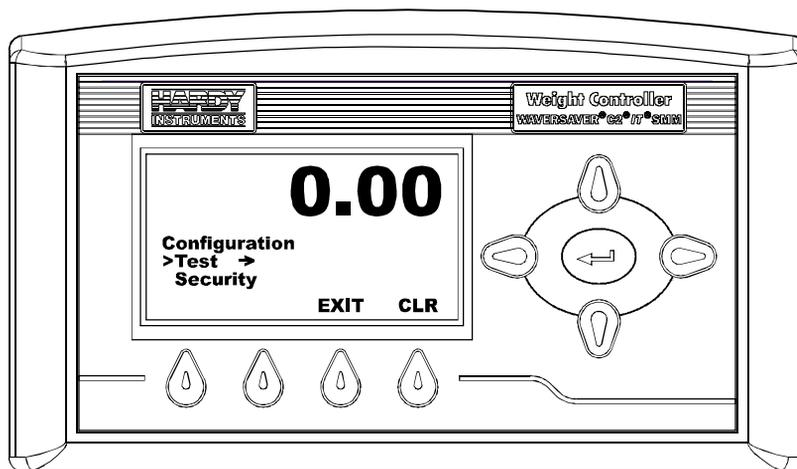

FIG. 387 CONFIGURATION MENU/SELECTING TEST
- Step 2. Press the down arrow button until the cursor is in front of Test. (See Fig. 387)